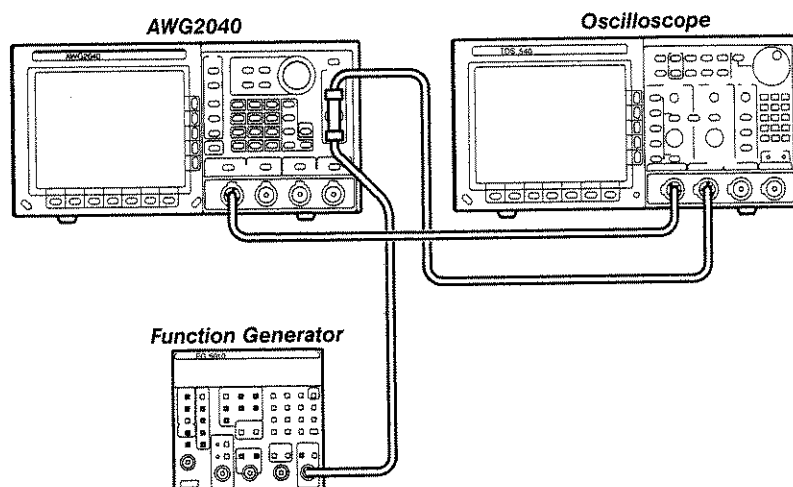

Figure E-6: Gated Mode Initial Test Hookup
- b. *Hook up the function generator:* Connect the adapter on TRIGGER-INPUT through the coaxial cable to the function generator output connector (see Figure E-6).